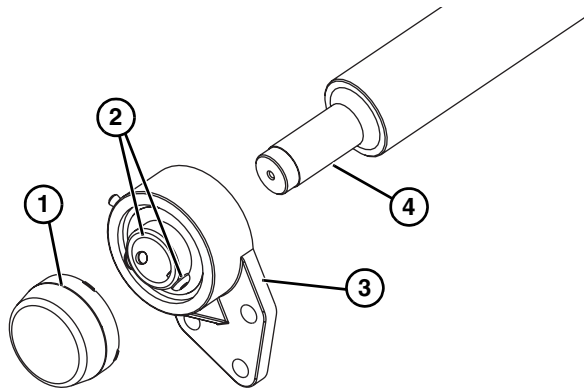

Figure 96
2. Remove the bearing cover (**Figure 96, item 1**).
3. Use a hex wrench to loosen the bearing shaft assembly fasteners (**Figure 96, item 2**).
4. Slide the bearing flange assembly (**Figure 96, item 3**), off the spindle shaft end (**Figure 96, item 4**).